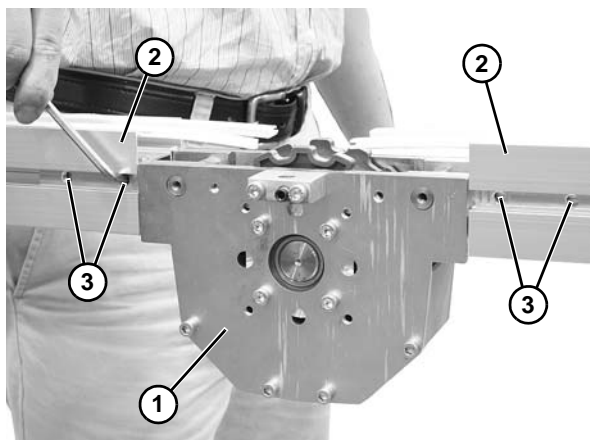

Figure 67
1. Install top running drive assembly (**Figure 67, item 1**) clamp plates into conveyor frame sections (**Figure 67, item 2**) by lining up clamp plates with slots in conveyor frame.
2. Secure with four set screws (**Figure 67, item 3**) on both sides of conveyor. Tighten all set screws 1/4 turn past contact with frame.